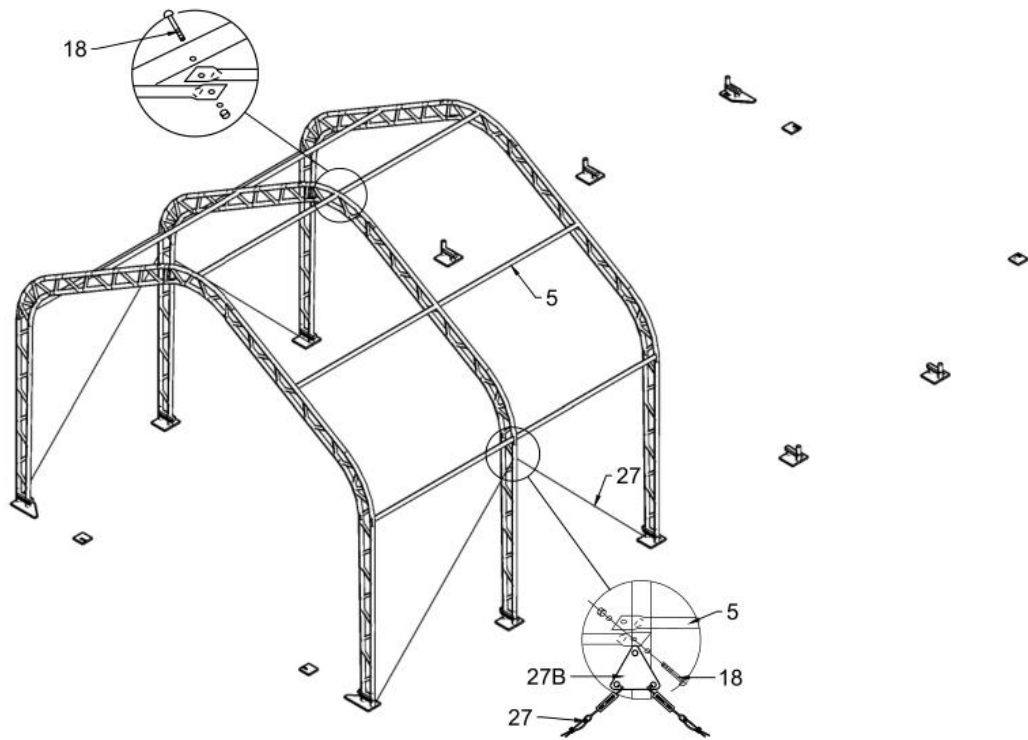

Figure 5
3. Connect Purlin (No. 5) to arch by using Carriage bolt M8*80mm (No. 18) by turns (see Figure 5), then connect the Steel wire (No. 27) on side and vertical by using Clip (No. 26) and Triangle iron plate (No. 27B) (see Figure 5).